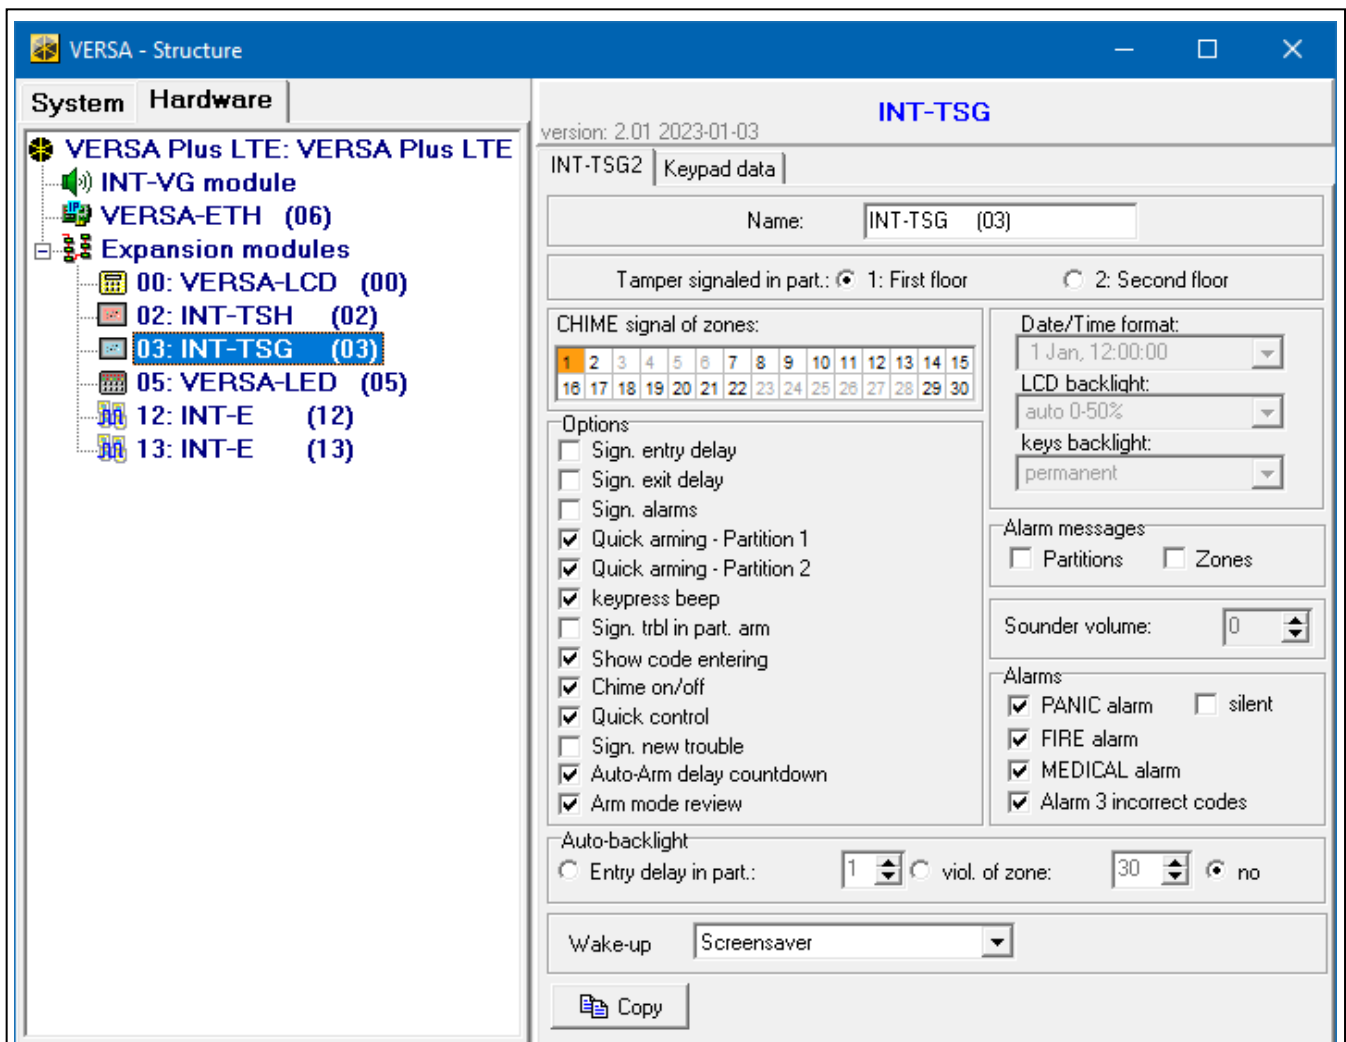

Fig. 23. DLOADX program: keypad in the VERSAs system – “INT-TSG2” tab (example).
- DLOADX program: → "VERSA – Structure" window → "Hardware" tab → "Expansion modules" branch → [keypad name] (Fig. 23). Required program version: 1.21.000 (or newer).